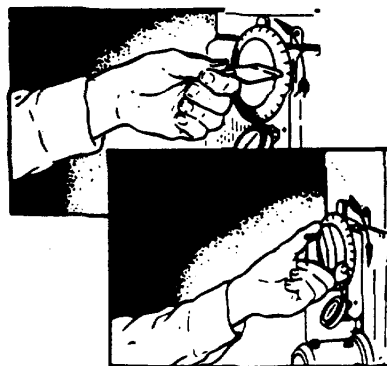
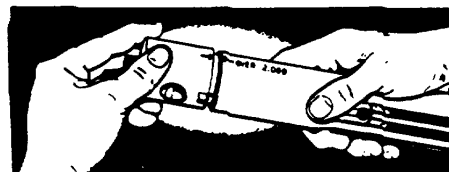

Figure 12
FIGURE 13
- (1) Back off feed dial (counterclockwise) all the way, then advance it clockwise about five turns (Figure 12).
- (2) With stone in mandrel, pull wedge out as far as possible with wrench provided.
- (3) Pull eccentric sleeve out until it is free to rotate, and set arrow on sleeve to the correct size range as indicated on sides of mandrel body (Figure 13). Push eccentric sleeve back onto mandrel shank, engaging locating pin with notch in sleeve.